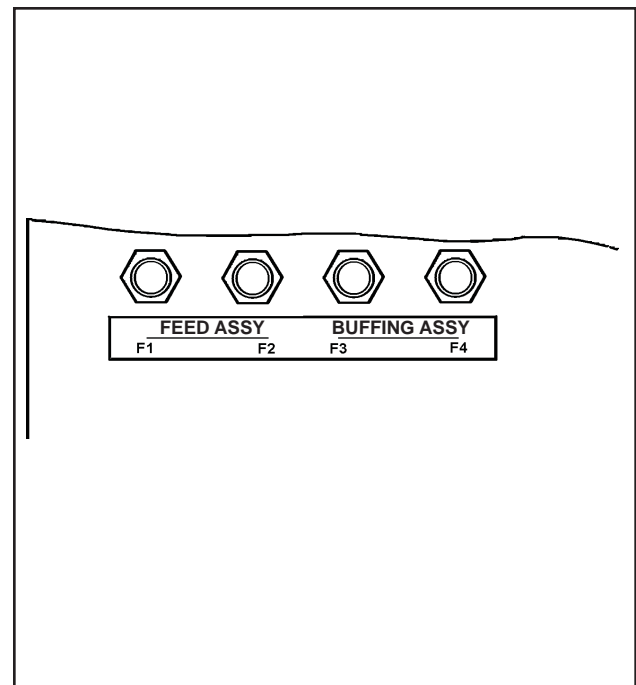

Figure 8-2 Air Flow Controls – Top View
8.6 Air Flow Controls (Figure 8-2)